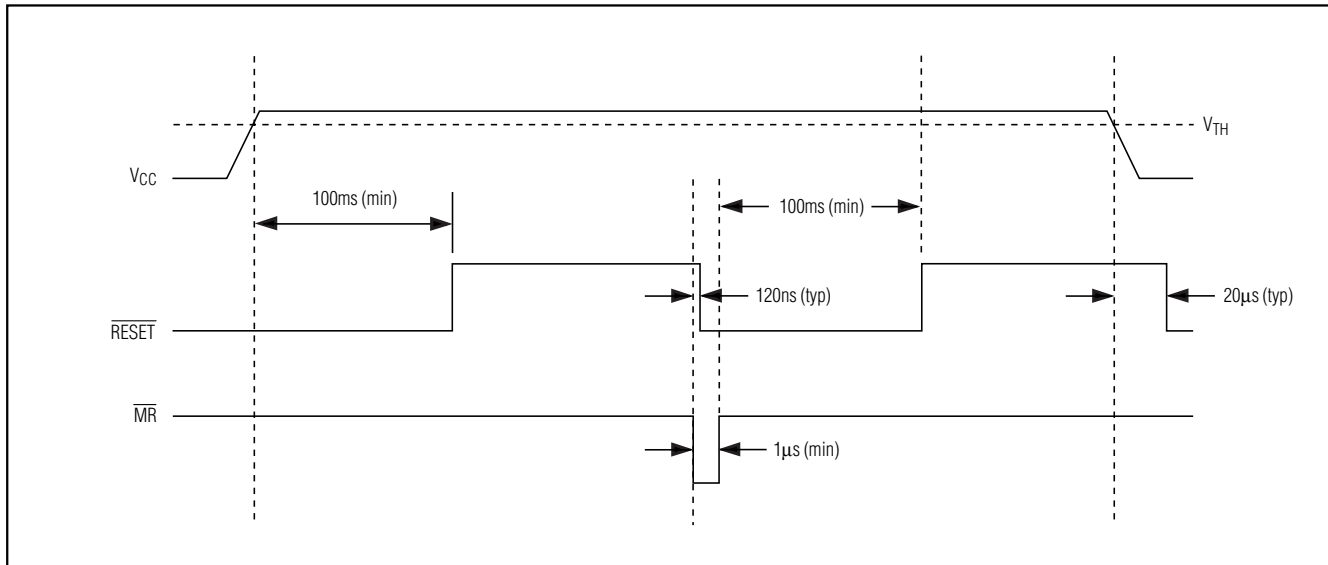

Figure 5. RESET Timing Relationship
falls below the preset threshold or when the manual reset input (MR) is asserted. The RESET output remains asserted for at least 100ms after V_{CC} has risen above the reset threshold and MR is deasserted (Figure 5). For noisy environments, bypass V_{CC} with a 500pF (min) capacitor to ensure correct operation.
Many μ P-based products require manual reset capability to allow an operator or external logic circuitry to initiate a reset. The manual reset input (MR) can connect directly to a switch without an external pullup resistor or debouncing network. MR is internally pulled up to V_{CC} and, therefore, can be left unconnected if unused. MR is designed to reject fast, negative-going transients (typically 100ns pulses), and it must be held low for a minimum of 1μs to assert the reset output (Figure 5). A 0.1μF capacitor from MR to ground provides additional noise immunity. After MR transitions from low to high, reset will remain asserted for the duration of the reset timeout period, at least 100ms.